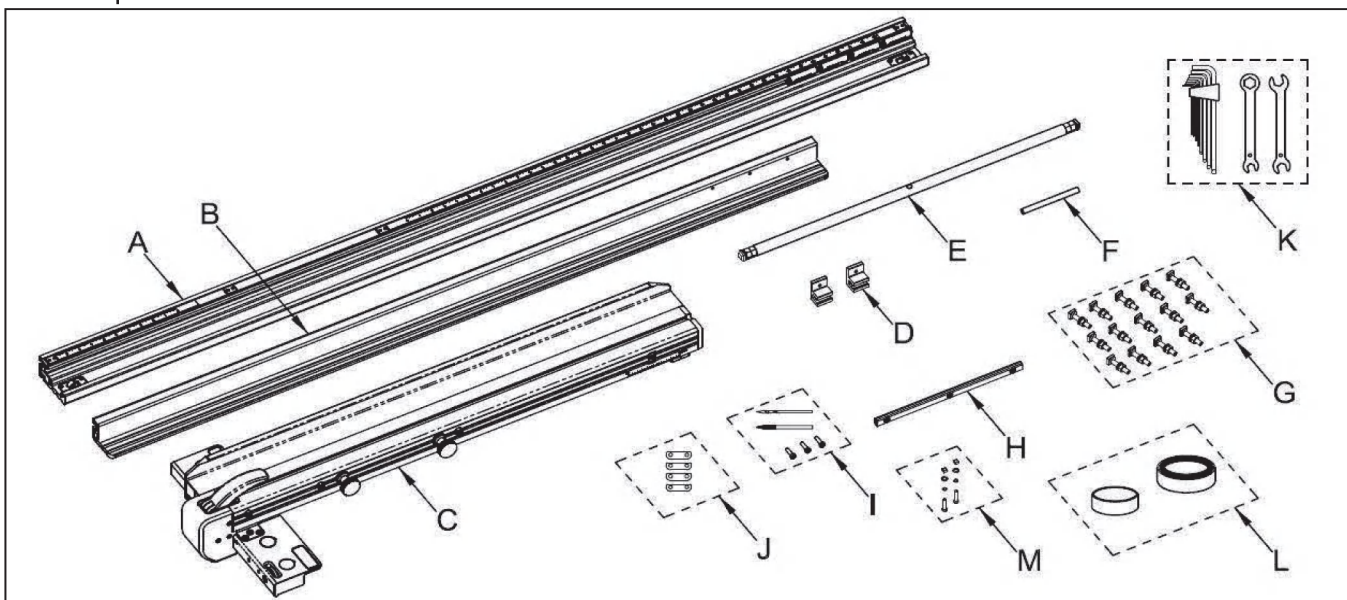
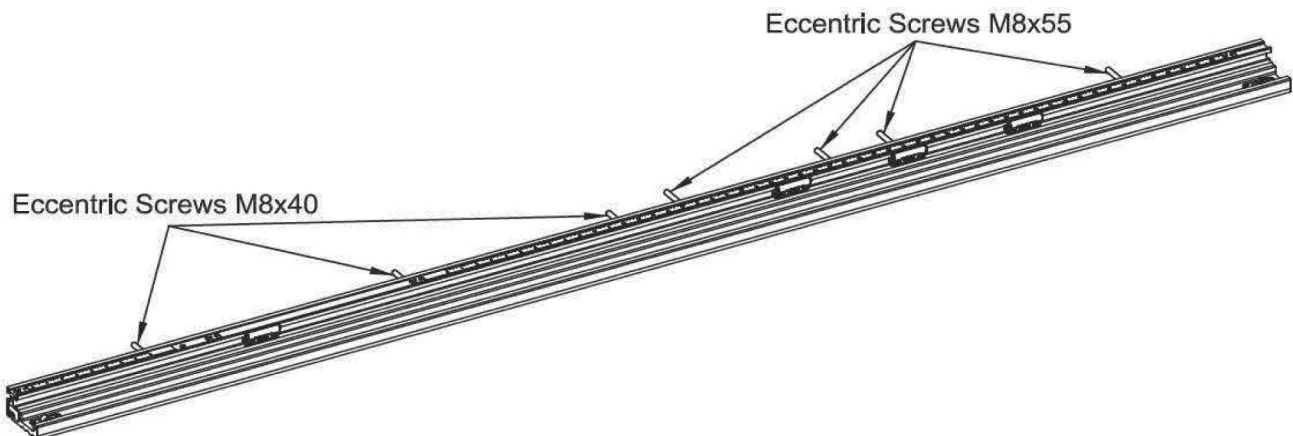
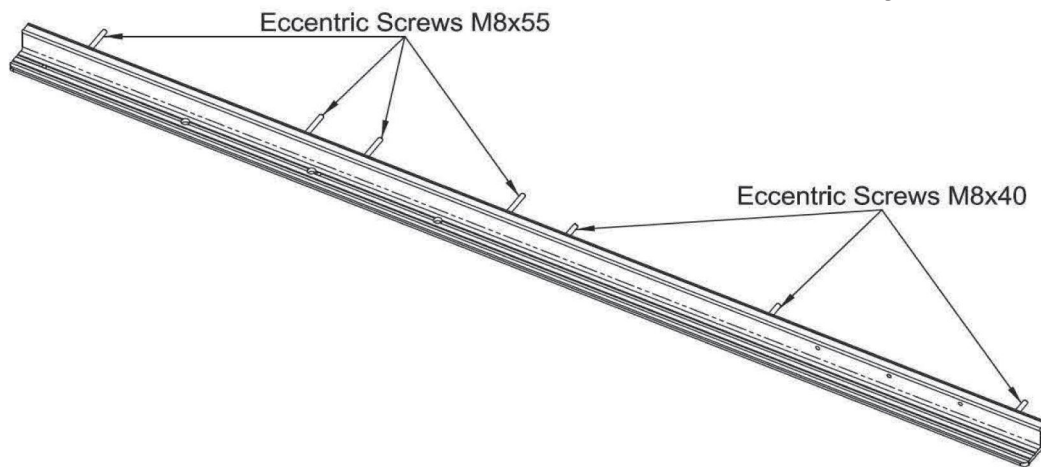
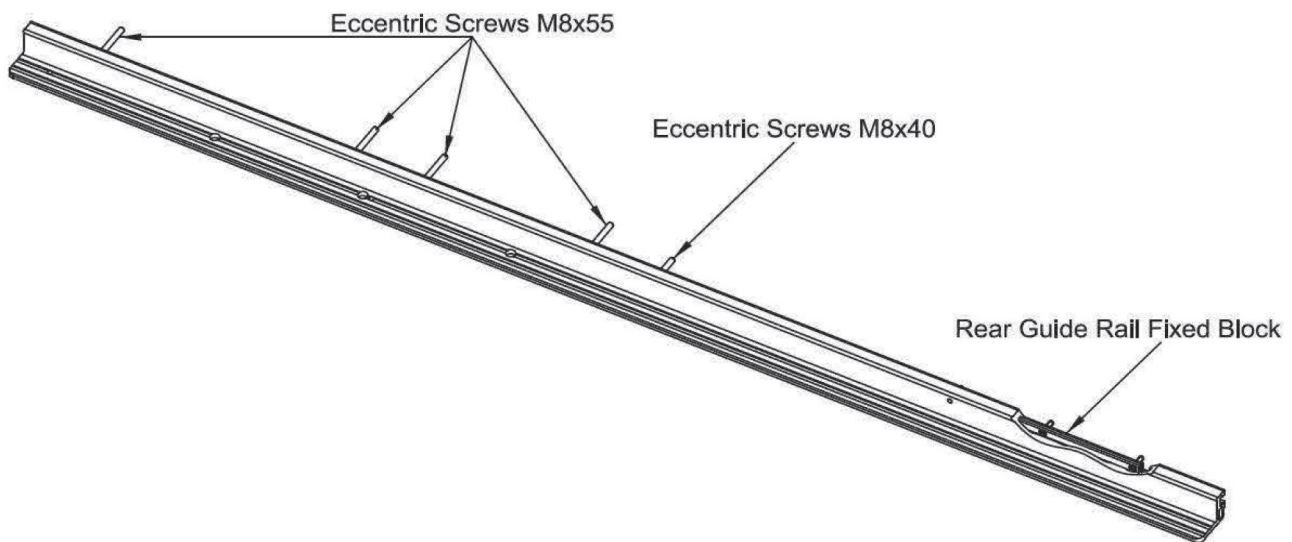

Fig. 5-1
Fig. 6-2
Fig. 6-6
Fig. 6-10
Please refer to Fig. 5-1 and the list below to verify your product.
1. Carefully insert the eccentric screws (**Item G from Fig. 5-1**) into the T-slot of the Front Guide Rail Assembly (**Item A from Fig. 5-1**), as shown in **Fig. 6-2. 1**. The use of M8x40 eccentric screws is intended for the cast iron table to prevent interference with any of the cast iron rib sections. For securing the wooden or phenolic table, utilize the M8x55 eccentric screws.
1. Carefully slide the eccentric screws (as depicted in **Fig. 5-1; Item G**) into the T-slot of the Rear Guide Rail Assembly (illustrated in **Fig. 5-1; Item B**), following the specifications and positioning detailed in **Fig. 6-6**. Ensure that the orientation of all eccentric screws matches that of the front guide rail.
3. Insert the eccentric screws (**Item G from Fig. 5-1**) into the T-slot of the Rear Guide Rail Assembly (B), aligning them according to the specifications and positioning shown in **Fig. 6-10**, and confirming that their orientation matches that of the front guide rail.